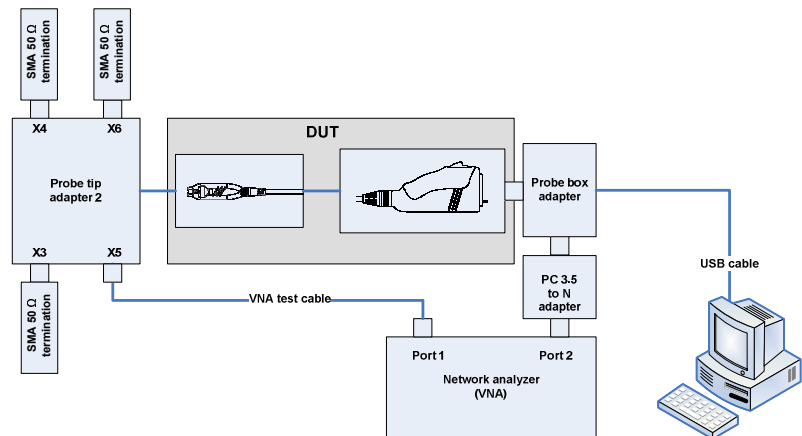

Figure 1-7: Network analyzer setup for calibration
► Connect the test cable to port 1 of the network analyzer (see Figure 1-7).